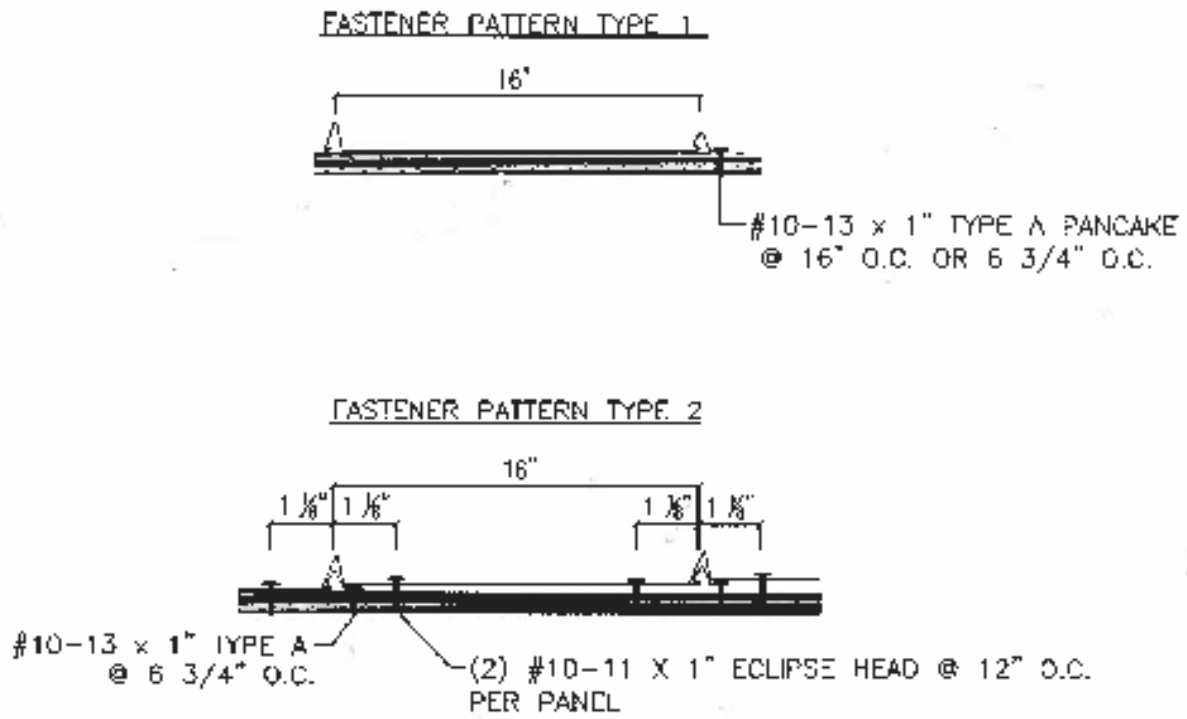

Figure 1. Fastener Patterns
-59.8	Type 1	One (1), No. 10-13x1" Type A	16" on center	N/A	N/A
-101.0	Type 1	One (1), No. 10-13x1" Type A	6-3/4" on center	N/A	N/A
-153.5	Type 2	One (1), No. 10-13x1" Type A	6-3/4" on center	Two (2), No. 10-11x1" Eclipse Head	12" on center
- **Panels:** Attach panels in accordance with the installation details in Table 1 and the fastener patterns shown in Figure 1.
- **Attachment of Metal Roofing Panels to the Roof Deck:** Secure the metal roofing panels to the wood roof deck using minimum No. 10-13 x 1" long Pancake Type A screws and minimum No 10-11 x 1" long Pancake Type A screws in accordance with Table 1 and Figure 1.. Use fasteners long enough to penetrate a minimum of 1/4" below the roof deck. Note: If installing the metal roofing panels over an existing roof covering, then increase the fastener length so that the fasteners penetrate a minimum of 1/4" below the roof deck. Table 1 and Figure 1 specify the spacing of the fasteners.